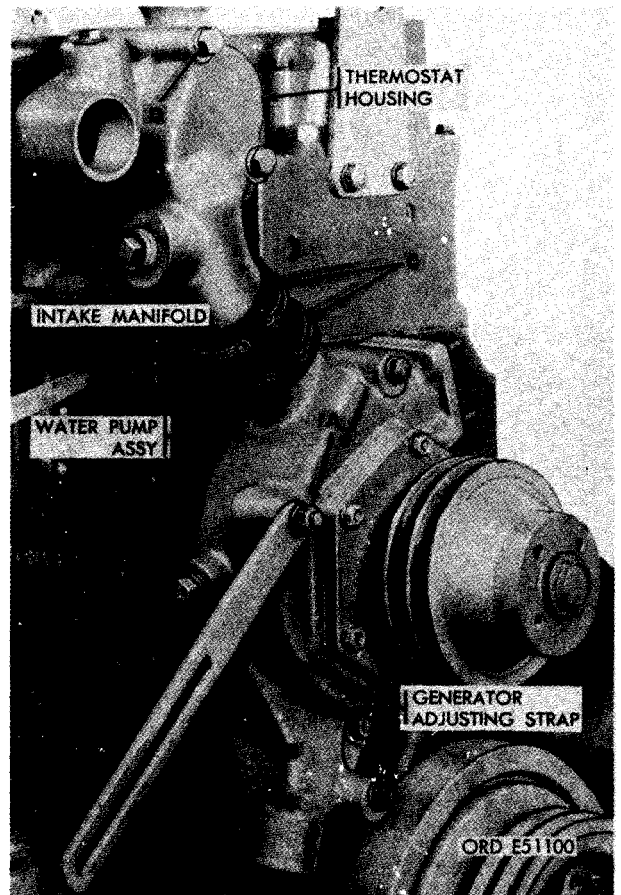

FIGURE 258. DISCONNECTING OR CONNECTING THERMOSTAT HOUSING.
- (2) Figure 258. (A) Remove 3/8-inch plain nut and 3/8-inch lock washer securing generator adjusting strap to water pump assembly. (B) Remove generator adjusting strap. (C) Loosen two 2-inch od hose clamps securing thermostat housing-to-water pump hose. (D) Remove two 3/8 x 3-5/8 cap screws and 3/8-inch flat washers securing thermostat housing to intake manifold.